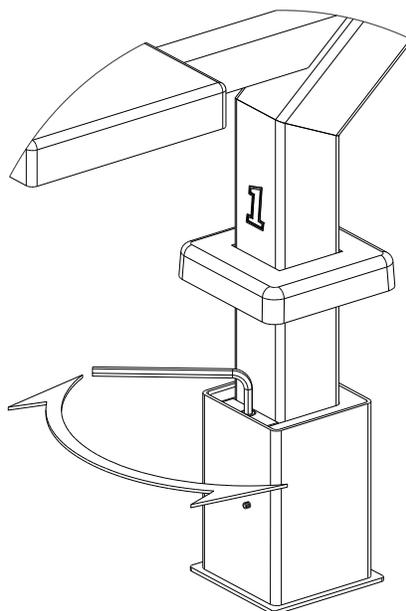

FIGURE 3
1. Loosen bolt using a ¼" ALLEN wrench, turning wrench in a counter-clockwise direction as seen from looking down. See **FIGURE 3**.
3. Place escutcheon over starting platform frame post orienting as shown in **FIGURE 3**.
6. To remove starting platform, lift escutcheon, insert ALLEN wrench into anchor bolt and turn counter-clockwise two (2) full turns. Lift and remove starting platform. DO NOT continue to loosen anchor bolt or remove anchor bolt for any reason.